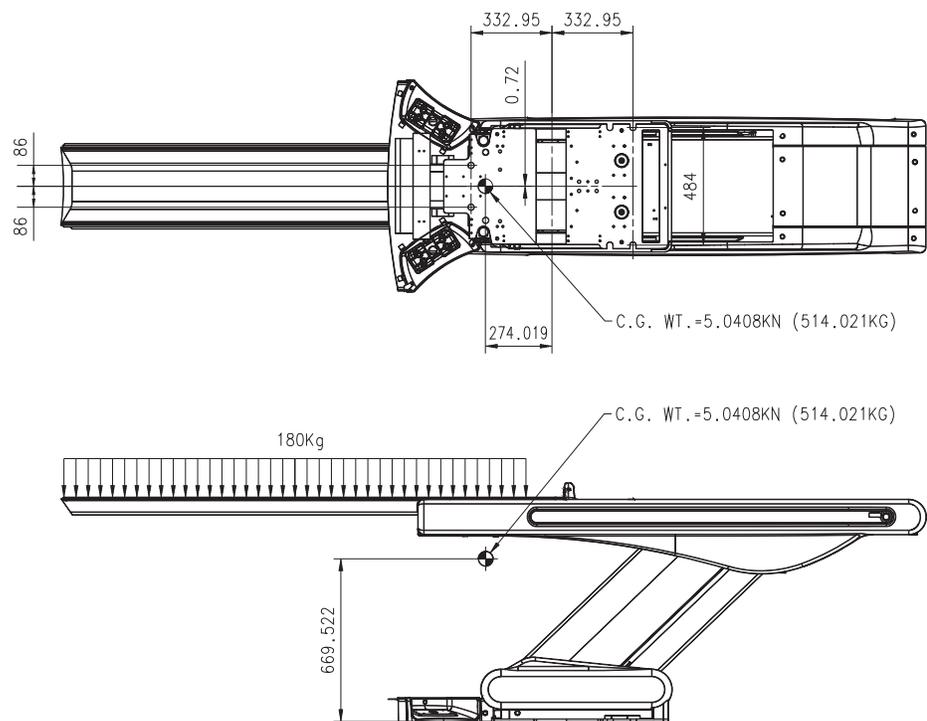
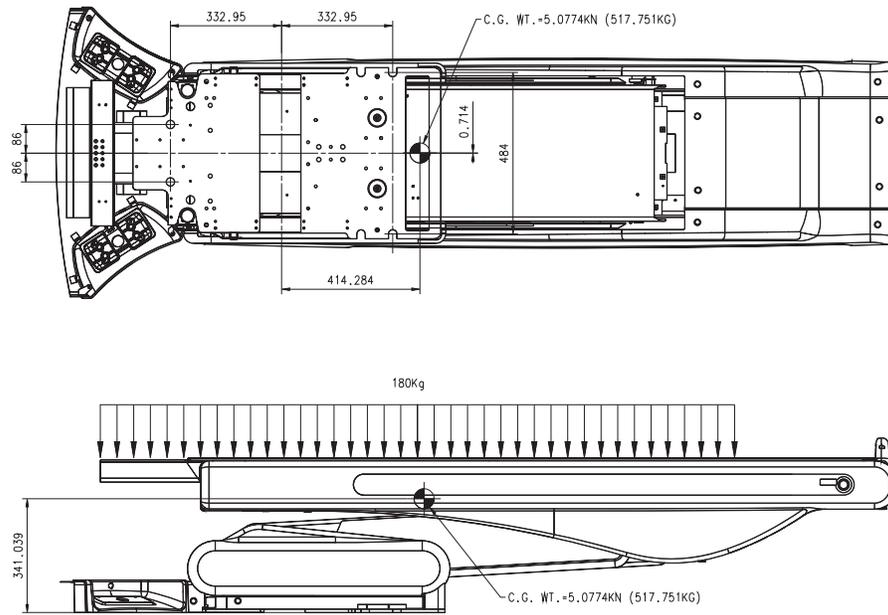

Figure 8-8 Kunlun Center-of-Gravity for High Position
Figure 8-9 Kunlun Center-of-Gravity for Down Position
- Table: Figure 8-8 and Figure 8-9